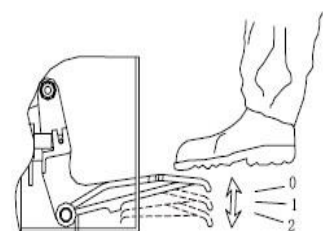
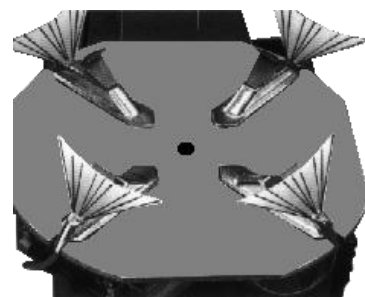

Fig 24
Fig 25
- a. Press Rapid Tire Inflation Pedal to the middle position (Fig 24, position 1), the
b. Press Rapid Tire Inflation Pedal all the way down (Fig 24, position 2), a strong air blast should come from the holes in the four jaws' locking sliders. **(Fig 25)**